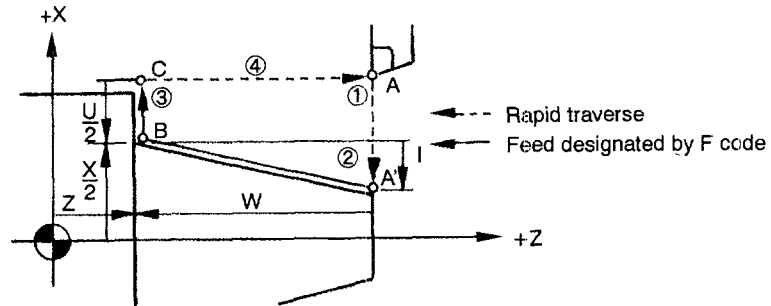

Fig. 4.3 Taper Cutting Cycle
With the commands of "G90 X(U)··· Z(W)··· I··· F(E)··· ;" taper cutting cycle is executed as indicated by sequence ① to ④ shown in Fig. 4.3.